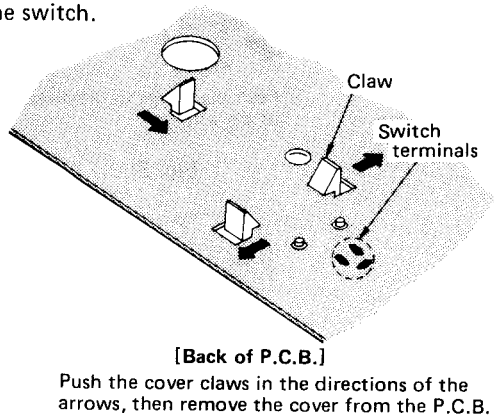

Fig. 9
3. Remove the switch cover from the P.C.B. (Fig. 9)